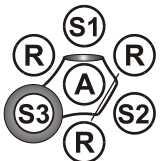

Figure 3.
- 4. Very Strong Positive:** The reference positive control lines turn toward the antigen well before they reach the well containing the test serum (S1) and there is a broad, hazy line between the test serum (S1) and antigen (A) (Figure 3). This line is situated very near the antigen well (A), especially if the plate is observed at 24 hours.
- 5. Non-Specific Lines:** These lines are observed between the antigen and test serum well. However, the reference positive control lines will pass through the non-specific line and continue on into the test serum well of negative sera (not shown). The non-specific line does not form a continuous line with the reference positive control lines. The reference positive control lines will form more acute angles with a non-specific line than with an EIAV-specific line of identity. The non-specific lines are formed by sample-antibody reactions with antigens other than EIAV p26. A sample serum may produce a specific EIAV line as well as a non-specific line (Figure 3, S2). Care must be taken to be certain a specific reaction is not obscured by a non-EIAV line. Retesting such samples and observing the reactions at frequent intervals may facilitate making determinations if the samples are positive or negative.
- 6. Haze Around Well:** Occasionally a haze, due to lipids or other material in the serum, will form around the test serum well that may obscure the reference positive control lines near the sample well (Figure 3, S3). If the test is read at 24 and 48 hours, sometimes the results can be determined before the haze obscures the reaction. However, in some cases a determination cannot be made and another sample should be requested.